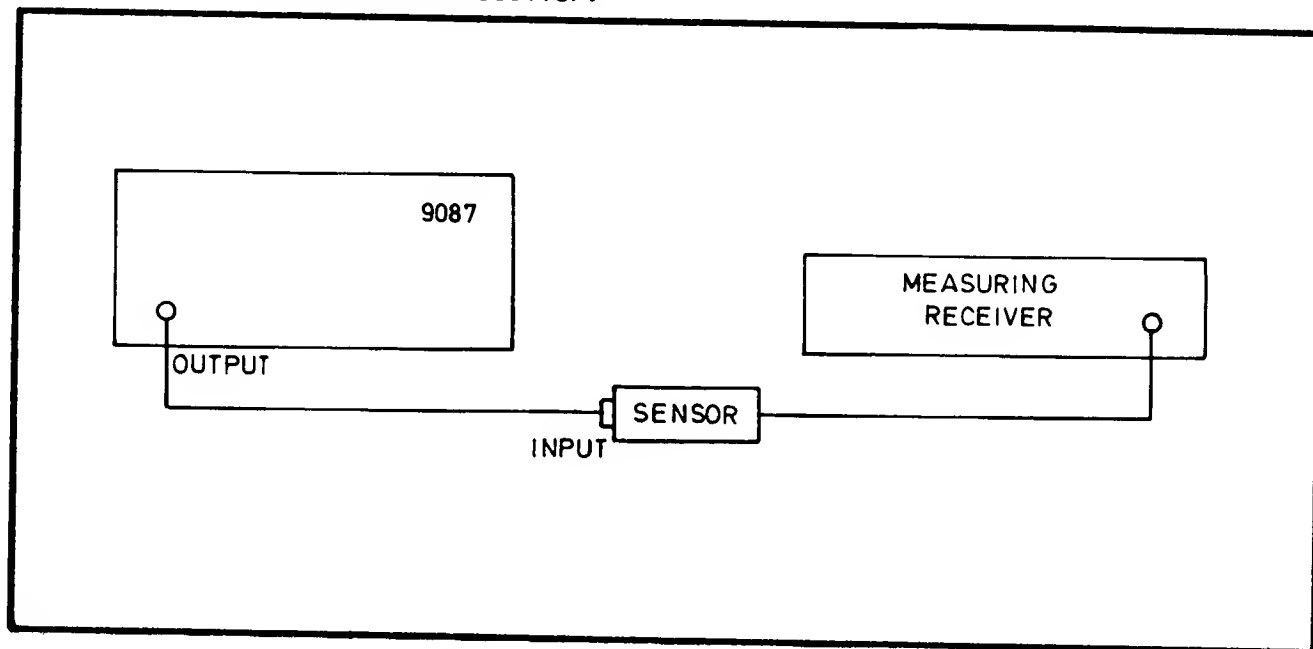

Fig. 7.20 Connections for Attenuator PVP
- (b) Connect the measuring receiver to the 9087 as shown in Fig. 7.20.